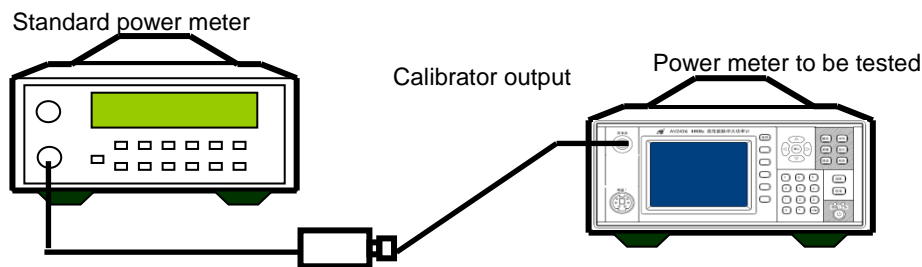

Fig. 8.4 Calibrator Power Accuracy Test Block Diagram
- 1) Connect the device as shown in Fig. 8.4 and warm up the instrument for at least 30 min.